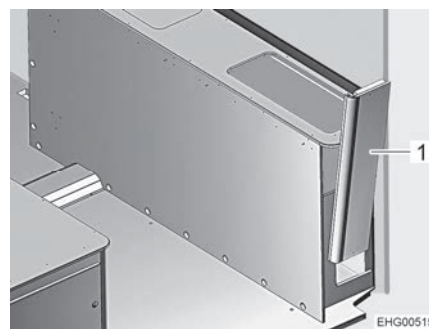

Fig. 160 Bedding box on the right, side wall
- Remove the side wall (Fig. 160,1) upwards with light shaking movements.